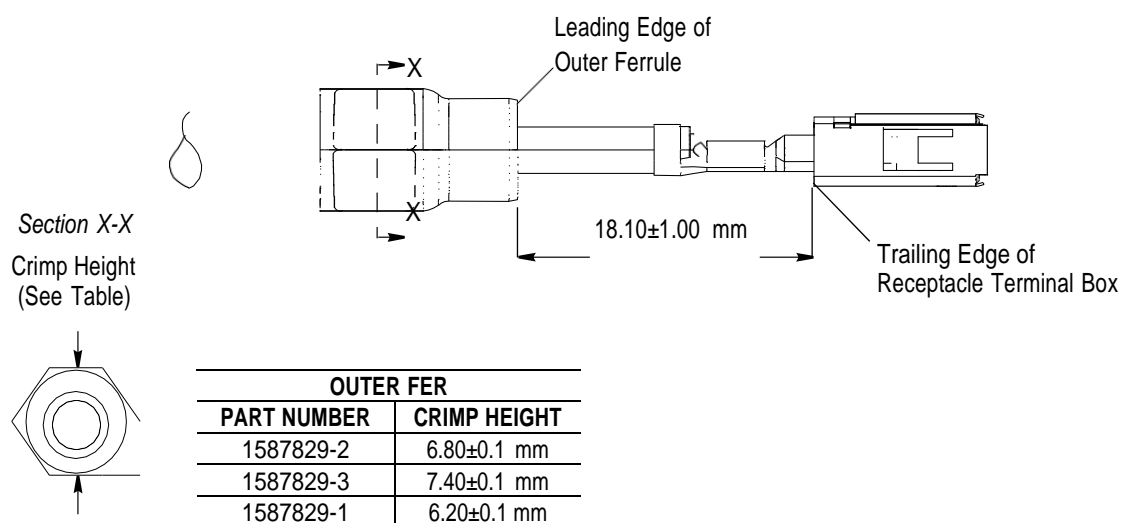

Figure 11
While these steps provide a logical procedural flow to complete this assembly, the order of operations maybe changed as needed as long as the dimensional specification between the terminal and the ferrule shown in Figure 11 (18.10 ± 1 mm) is not violated and ferrule retention meets all the USCAR 37 acceptance criteria.
9. Crimp each outer ferrule using the tooling specified in Section 5. Using a blade micrometer, measure each outer ferrule crimp over the most compressed area three times: one on top and one on each opposing side. Use the lowest measurement as the passing criteria. The crimp height is given in Figure 11.
The distance between the leading edge of the outer ferrule and trailing edge of the receptacle terminal box must be maintained at the dimension given in Figure 11.